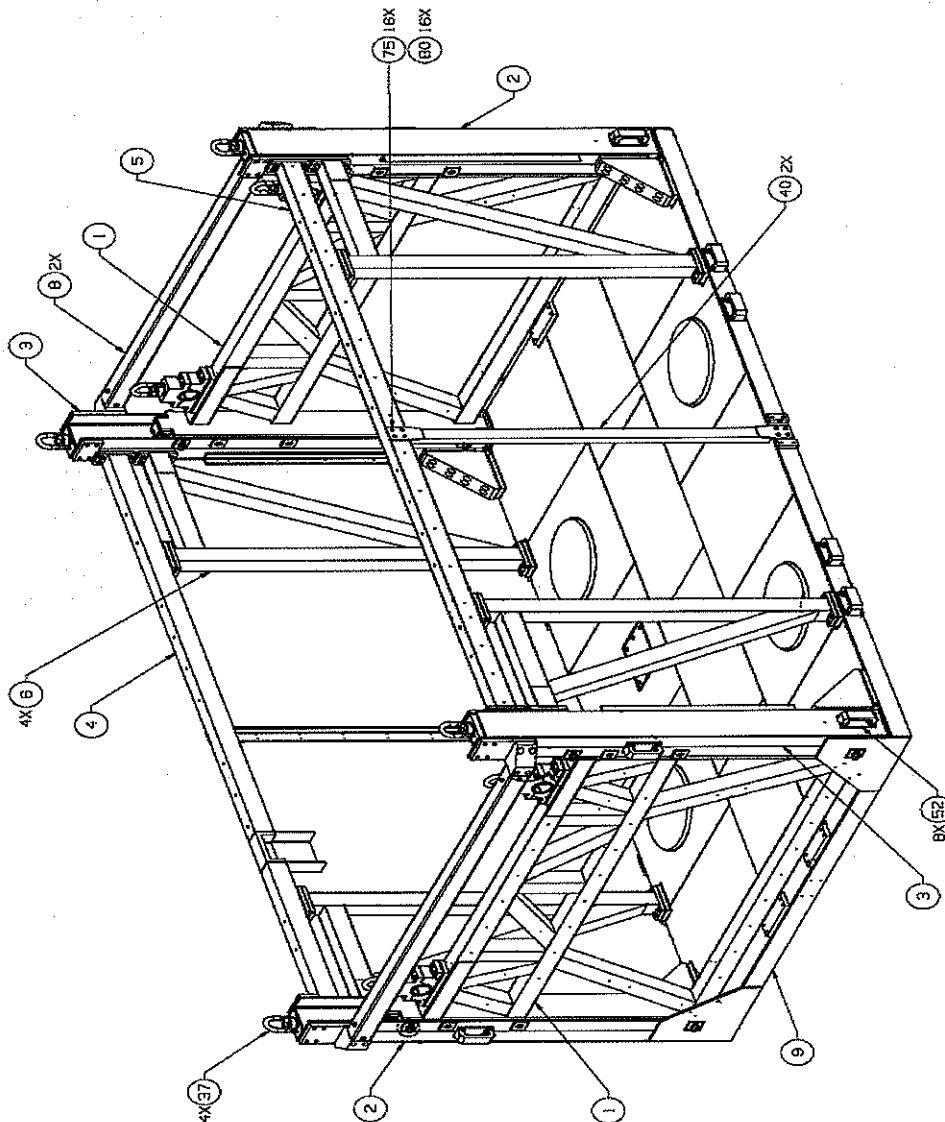

Figure 7: PSS Low Configuration
7. Using Figure 7 as a reference, remove the item 4, Longitudinal Tie-bar Assembly, Left, SEG38117007-701 (GSE), the item 5, Longitudinal Tie-bar Assembly, Right, SEG38117009-701 (GSE), and four (4) item 6 Diagonal Brace Assembly, Short, SEG38117016-701 (GSE). The removal of these components will generate sixty-four (64) bolts, SDG38117090-801 (C1), sixty-four (64) washers, NAS1587-8C, and eight (8) shims, 1/4" Short Shim A1, SDG38117053-801 (GSE), four (4) 1/4" Short Shim A2, SDG38117053-811 (GSE), and four (4) 1/4" Long Shim B2, SDG38117053-813 (GSE). Check the bolts for signs of damage. If the bolts show damage, mark the hardware and remove from service. Place the bolts, washers, and shims that are from each interface in separate bags. Mark on bags the location from which the bolts, washers, and shims were removed.